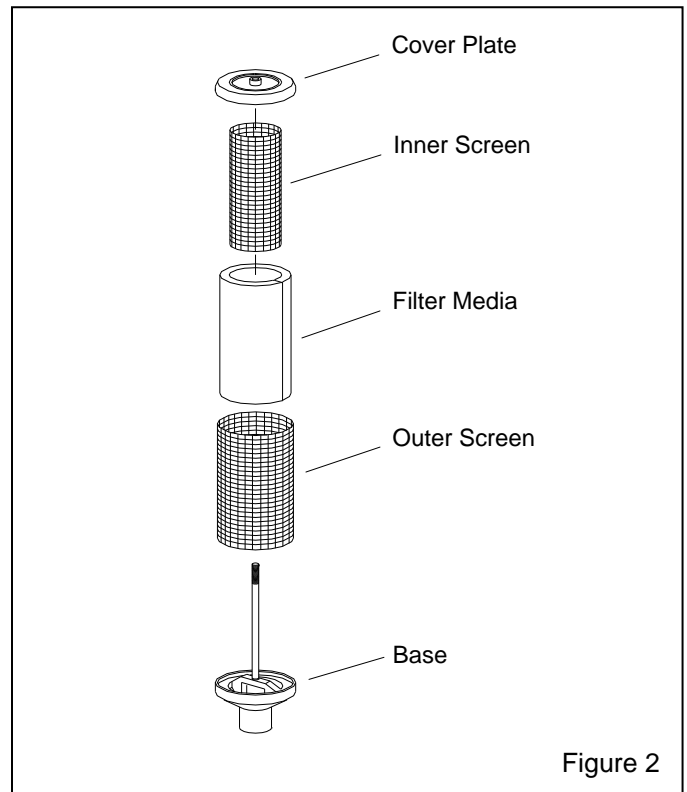

Figure 2
5.1 Inlet filter, Ref. Figure 2